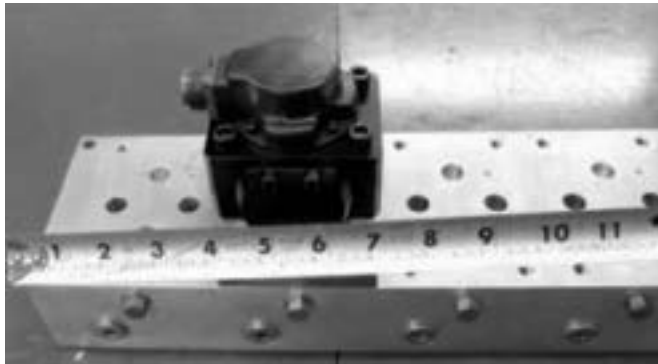

Figure 2. Verify adequate space to accommodate the AxisPro valve.
- b. Verify there is adequate space to accommodate the AxisPro valve by measuring space around the mounted servo valve (Figure 2)